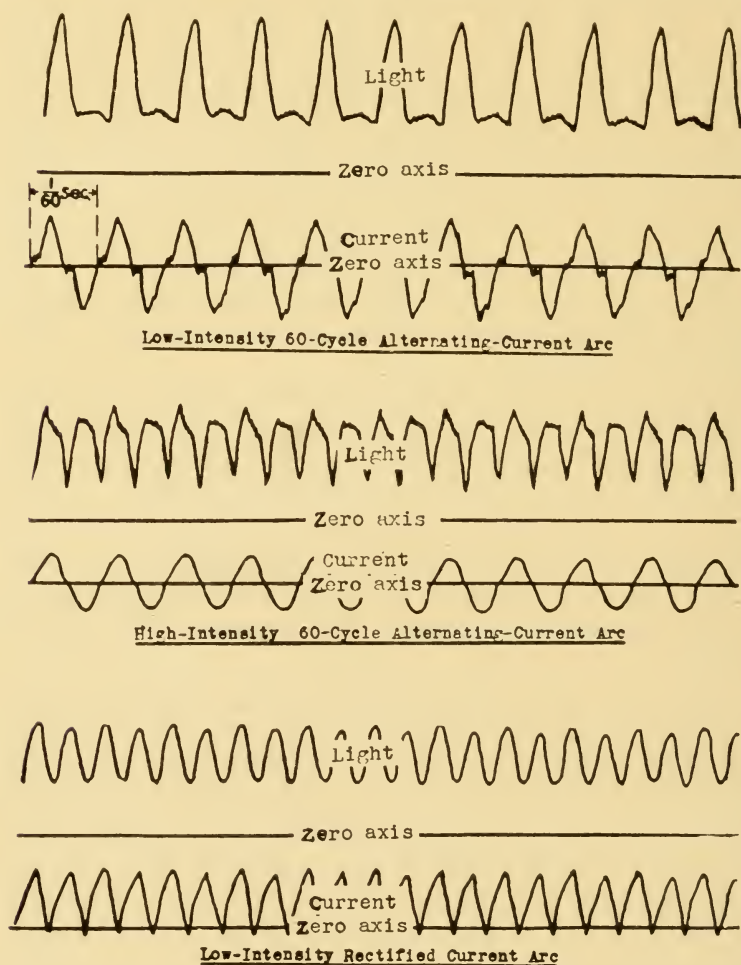

FIG. 99.—Oscillograms of arc current and instantaneous light on projection screen; projector shutter not running.
(144) Fig. 99 shows at the top the record of a low intensity 60 cycle alternating current arc. Examine the second line where "1/60 Sec." appears at the left. The "1/60 Sec." shows that one complete current cycle consumes or lasts that length of time, or one alternation half that time, namely, 1/120th of a second. We also see where the dead period lies (jiggles in the V shape lines) and that it is not precisely on the zero line, but alternately a trifle above and below it.
of light is supplied by the arc when the current curve is below the axis. This accounts for the much larger and more noticeable flicker from this old type arc, as shown by the top oscillograph curve in Figure 99.
\*In all oscillograms shown in Fig. 99 the projector was not running, hence any effect set up by the rotating shutter is absent.
arc as pictured in Fig. 99 the short horizontal lines at the bottom of the peaks represent the period of time all light is shut off the screen by the shutter blades. The high peaks represent the period the shutter is open and the light coming from the light source at the time it is positive. The low ones represent the light when the shutter is open and the light source (carbon crater facing the collector) is negative.
the screen from one shutter opening to the next varies enormously in the case of the low-intensity a.c. arc. This is due directly to the fact, as illustrated in Fig. 99, during the half cycle that the carbon in focus is negative, the light remains at a comparatively low value. On the other hand, the light from the high-intensity a.c. arc, although of irregular wave-form, is much more nearly constant for each shutter opening, and corresponds much more closely to the curve of the light obtained from the d.c. arc operating on rectified current with the shutter running.